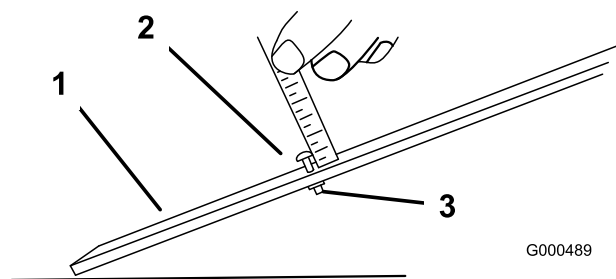

Figure 57
2. Loosen nut on gauge bar (Figure 57) and set adjusting screw to desired height-of-cut. Distance between bottom of screw head and face of bar is height-of-cut.